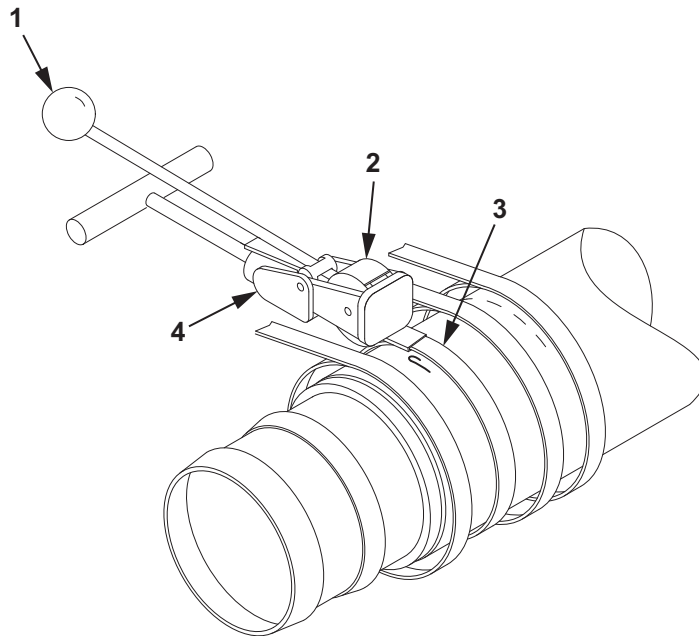

Figure 35. Hose Assembly Repair.
43. While holding the clamping tool handle (Figure 35, Item 1) in the down position, strike the center punch anvil (Figure 35, Item 2) three to four times with a hammer.
44. While still holding the clamping tool handle (Figure 35, Item 1) in the down position, raise the entire clamping tool (Figure 35, Item 3) up to shear the tail of the band off of the clamp (Figure 35, Item 4).
45. Using hammer, tap the edge of the distorted clamp (Figure 35, Item 4) down to a level configuration.
46. Repeat this procedure to splice the other hose assembly section to the hose splice (Figure 35, Item 5).